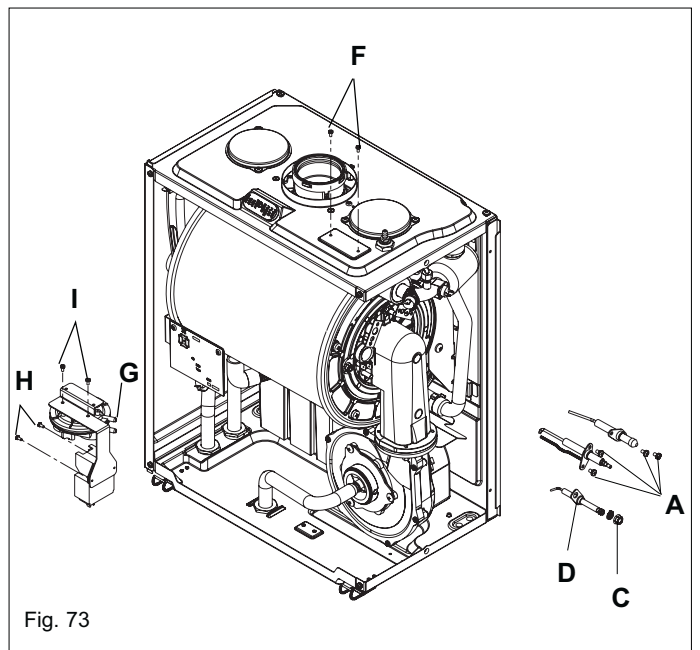

Fig. 73
ELECTRODES & CONDENSATE SENSOR (Fig. 73)
Unclip and remove the air chamber front and the right hand side covers. Slacken the gas pipe (A) at the air box connection and swing/rotate of the fan assembly. Locate and remove the 3 internal nuts (B) which secure the fan assembly in position (C) to the heat exchanger (D). Disconnect the electrode leads and ancillary wiring from their respective connectors. Remove the retaining screws (A fig. 73) for sensing electrode and remove. Remove the retaining nut (C fig. 73) for condensation sensor (D fig. 73) and remove. Gently ease the fan assembly out of its location. Once the assembly has been removed, the burner (E) can be withdrawn from the heat engine. Ensure the seal (F) is in good condition, taking care to ensure it is replaced correctly. Replace in the reverse order.
BLOCKED FLUE PRESSURE SWITCH/IGNITION TRANSFORMER (Fig. 73)